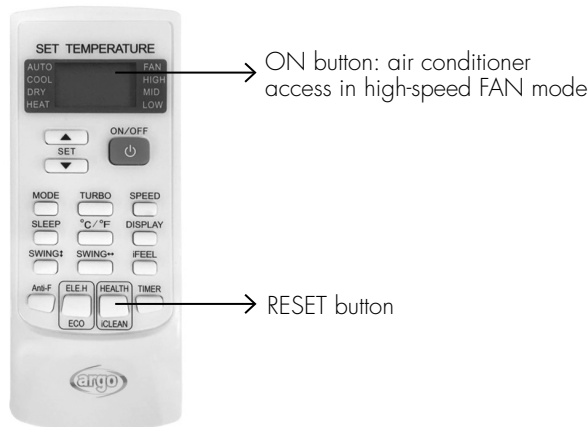

Fig.4
- Direct the remote control to the display of the internal unit, then press the “HEALTH” button 8 times; a “beep” will follow twice, indicating that the reset has been done correctly (Fig.4).